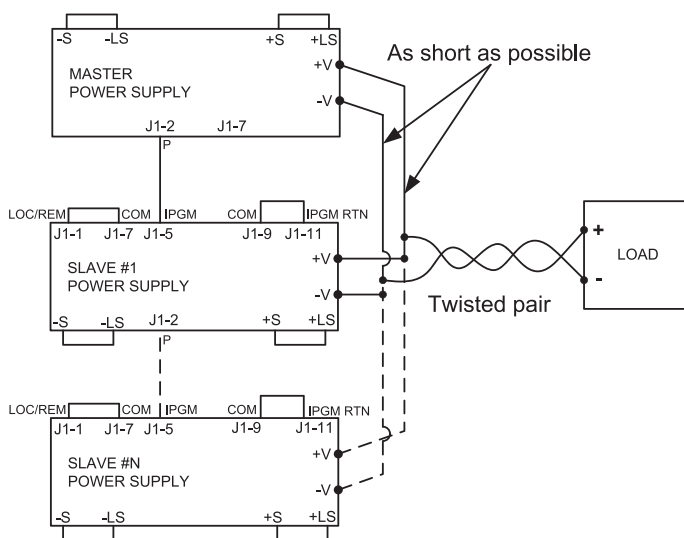

Fig.5-4: Parallel connection with local sensing
Set the master unit output voltage to the desired voltage. Program the current limit to the desired load current limit, divided by the number of parallel units. During operation, the master unit operates in CV mode, regulating the load voltage at the programmed output voltage. Connect the sensing circuit to local or remote sensing as shown in Fig.5-4 or Fig.5-5. Front Panel Main Menu Parallel mode is "H 1" as default.
5. For wiring instructions, refer to Fig.5-4: Parallel connection with local sensing or Fig.5-5: Parallel connection with remote sensing.
In parallel operation, power supplies can be connected in local or remote sensing. Refer to Fig.5-4 and 5-5 for typical connections of parallel power supplies. The figures show connection of two units, however the same connection method applies for up to 6 units.
Set the master unit output voltage to the desired voltage. Program the current limit to the desired load current limit, divided by the number of parallel units. During operation, the master unit operates in CV mode, regulating the load voltage at the programmed output voltage. Connect the sensing circuit to local or remote sensing as shown in Fig.5-4 or Fig.5-5.
6. For wiring instructions, refer to Fig.5-4: Parallel connection with local sensing or Fig.5-5: Parallel connection with remote sensing and Section 5.6: Daisy-Chain connection.